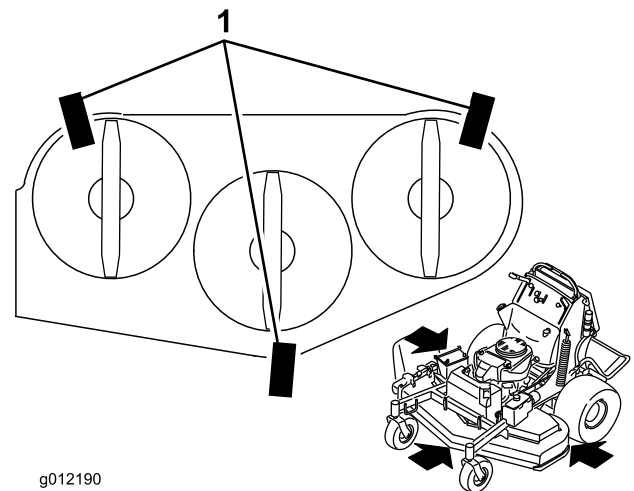

Figure 85
1. Place 3 pieces of 2x4 wood under the mower deck as shown in Figure 85. Stand the 2x4's on the 4 inch part.